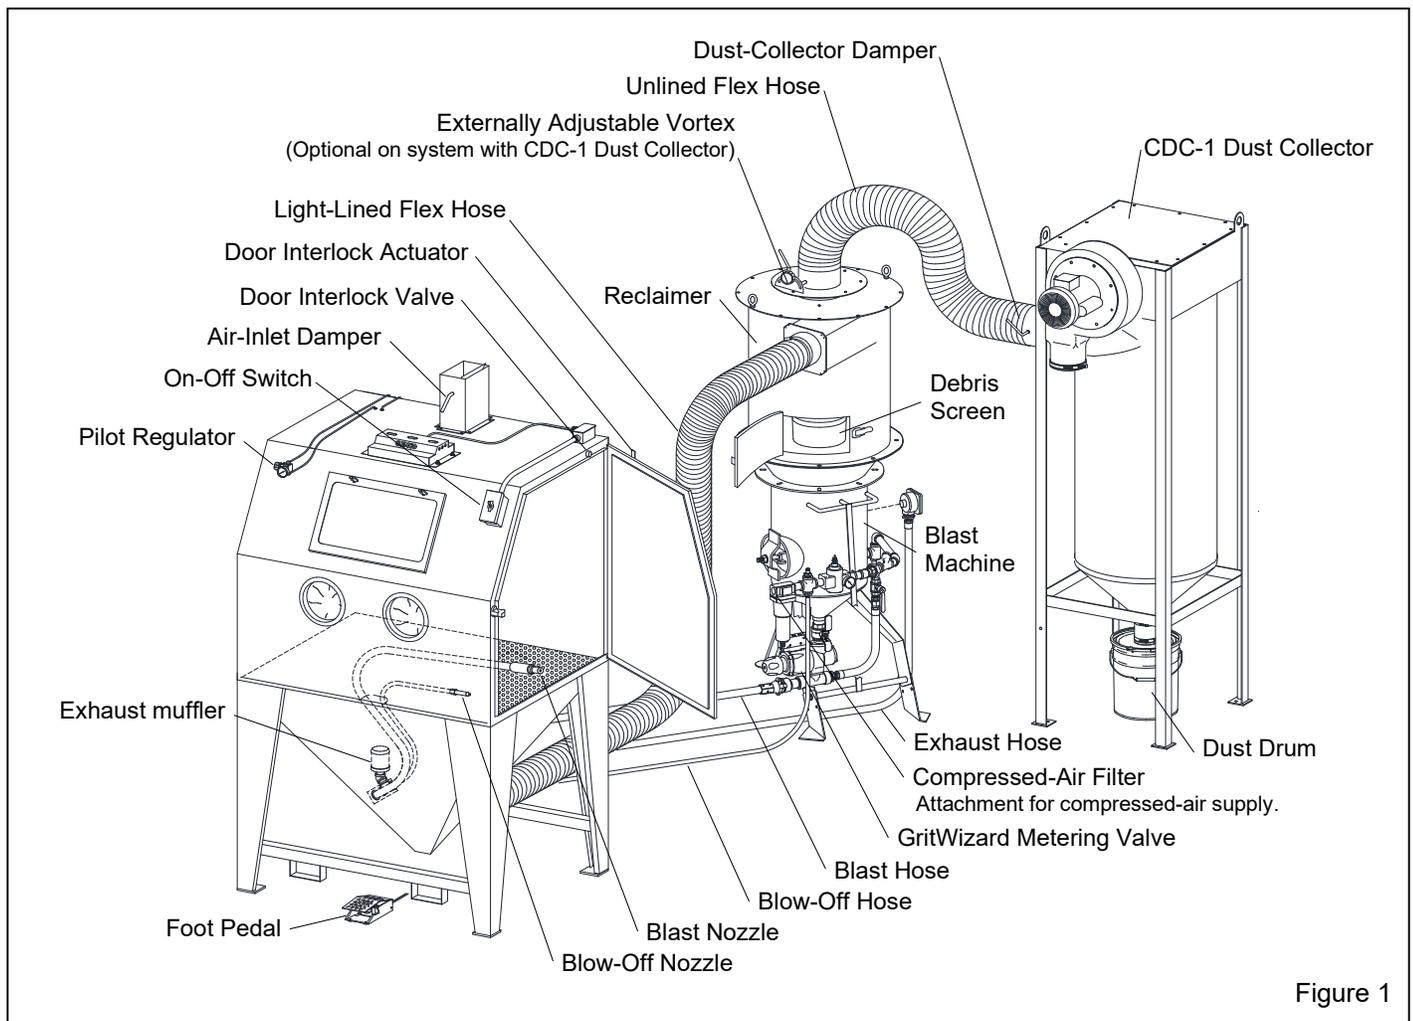

Figure 1
1.4.3 Refer to Figure 1 for arrangement of components with a CDC-1 Dust Collector. The illustration shows 900 cfm reclaimer mounted atop the blast machine; the smaller 600 reclaimer is mounted in the same manner. Figure 2 shows the arrangement with an RPC-2 reverse-pulse dust collector with dust drawer. The optional RPH is set up the same way as the RPC-2, but includes a hopper for additional dust storage, and empties into a drum. The overall height of an RPH-2 is approximately 10.5 ft and 12 ft when the top access door is open. To upgrade, an RPC-2 or RPH-2 collector may be added at any time.
1.7.1 CDC-1 Dust Collectors: Shown in Figure 1, the collector is available in 600, and 900 cfm models. The single filter cartridge is cleaned by using a manually controlled pulse of compressed air. Dust collects in a 5-gallon dust drum, which must be frequently emptied. CDC-1 Dust Collectors (refer to manual number 28225) are standard with BNP cabinets unless an optional RPC-2 or RPH Dust Collector is ordered at time of purchase.
2.1.1 Refer to Figure 1 (and Figure 2 for optional reverse-pulse collector) for the general arrangement and Figure 6 for the control line schematic. Select a location